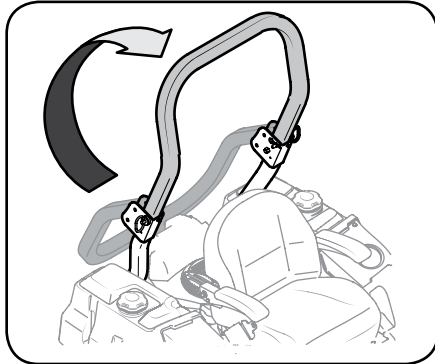

Figure 2-4
1. Remove the left and right clevis pins and cotter pins securing the ROPS in position and rotate it so that they allow the ROPS to move freely. See Figure 2-4.